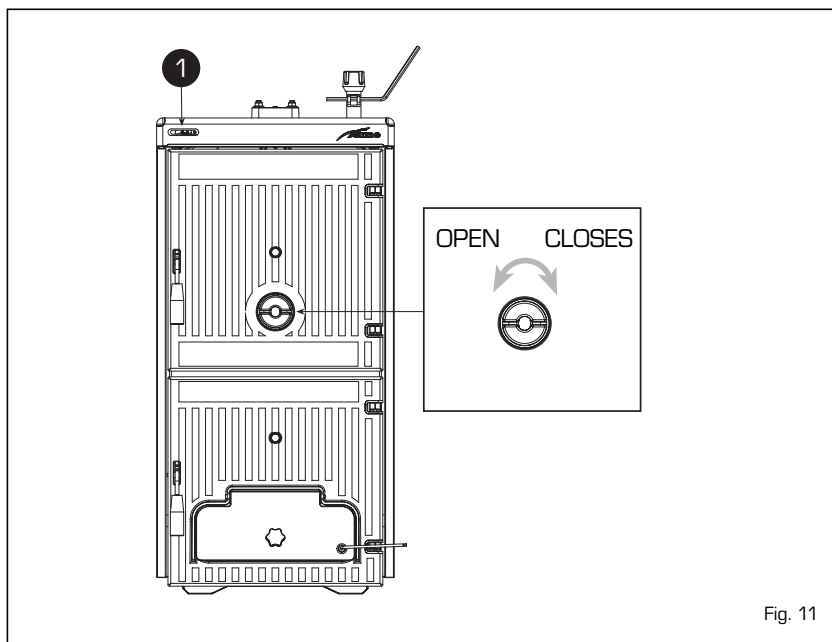

Fig. 11
5.2 BOILER THERMOMETER (fig. 11)
5.3 AIR ADJUSTMENT (fig. 11)